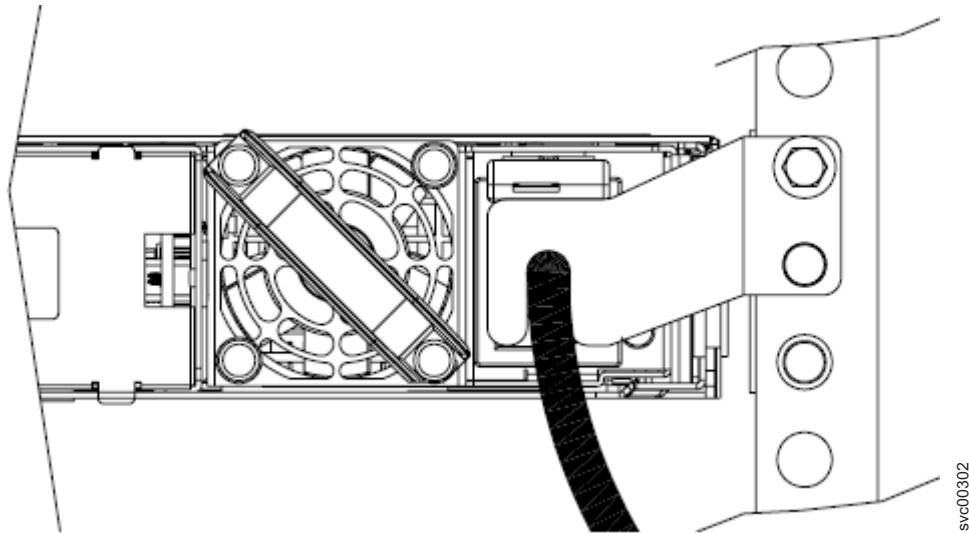

Figure 23. The SAN Volume Controller 2145-8G4 with cable-retention bracket type B attached
1. Remove the securing bolt from the node side rail (shown in Figure 23 on page 39) next to the power supply.